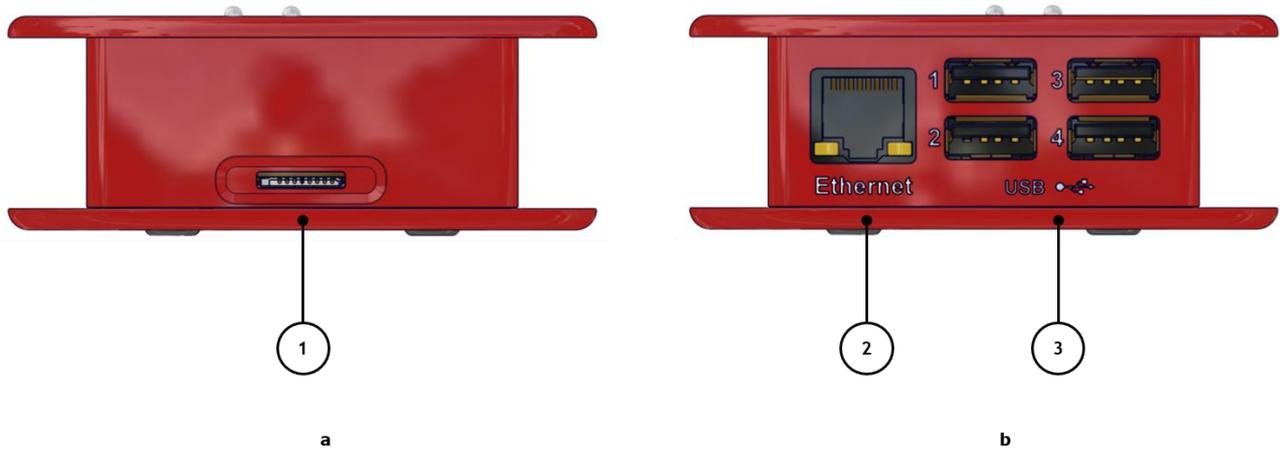
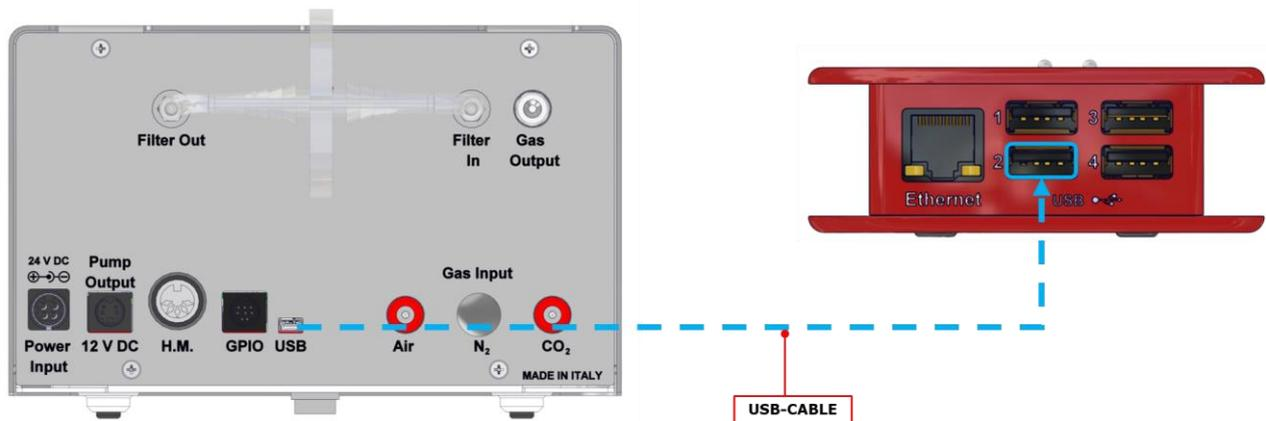

Figure 3 Smart Box - left and right side (a - b).
Figure 4. How to connect Smart Box to controller
Figure 3 illustrates Smart Box left and right panel:
2. Connect the USB connector of Smart Box (3 in Figure 3) to USB connector on the rear panel of controller using the MINI-USB cable (see Figure 4).
3. Connect a network cable from Ethernet port (2 in Figure 3) to your local router. Smart Box is equipped with a standard Ethernet RJ45 socket, which can be connected through any commercially available network cable. If no internet connection is available, only local access is possible, either through the PC or router.